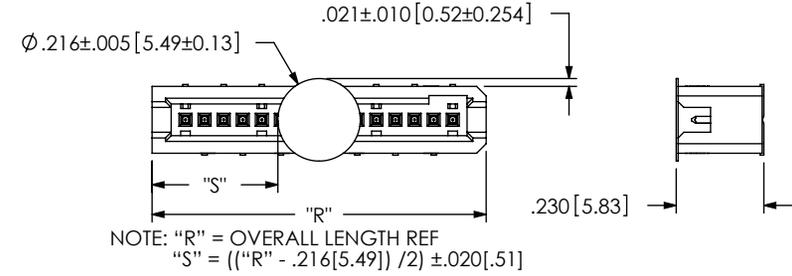

FIGURE 5
- A: ALIGNMENT PIN (USE TFM-XX-S-01-A) (NOT AVAILABLE WITH -WT OPTION) (SEE FIG. 5 SHEET 2)